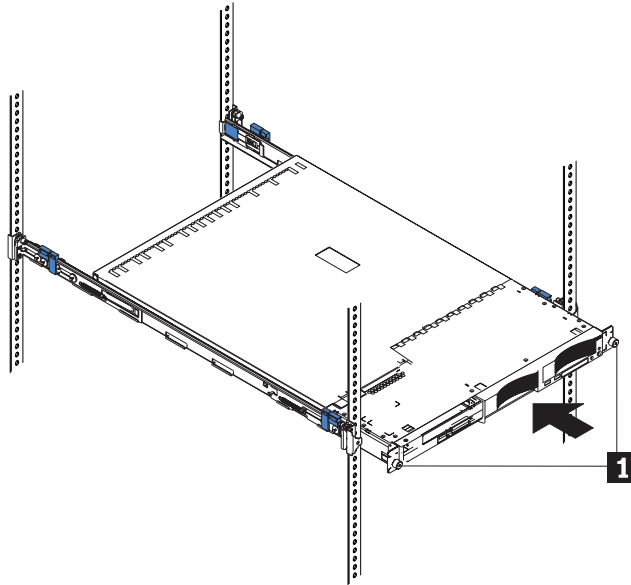

Figure 32. Installing the SAN Volume Controller into a rack
2. Fully tighten the two captive thumbscrews 1 (see Figure 32 on page 34).